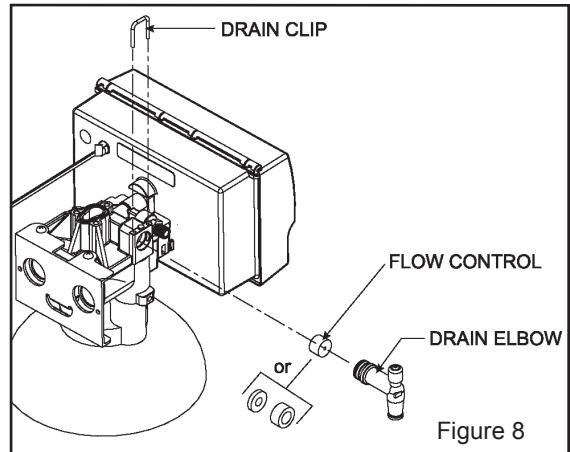

Figure 8
For backwash flow control conversion, refer to Figure 8 and instructions listed below.
- Insert the flow control washer with the molded numbers facing toward the valve body. Refer to Table 1. For the 6.0 gpm flow control, insert the flow control with the molded "5.5" facing away from the valve body. Insert the plastic flow control spacer after the 7 gpm flow control washer on the 10" Filtr-Cleer. See Figure 8.
Refer to Figure 8 and Table 2 & 3, under the applicable tank size for drain line length and height limitations.